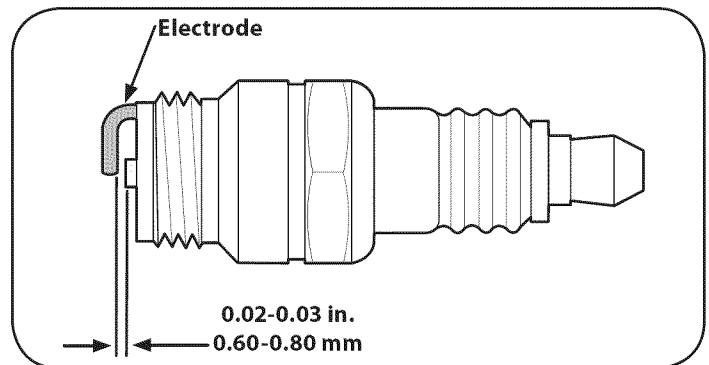

Figure 18
3. Measure the plug gap with a feeler gauge. Correct as necessary by bending side electrode. See Figure 18. The gap should be set to 0.030 in.